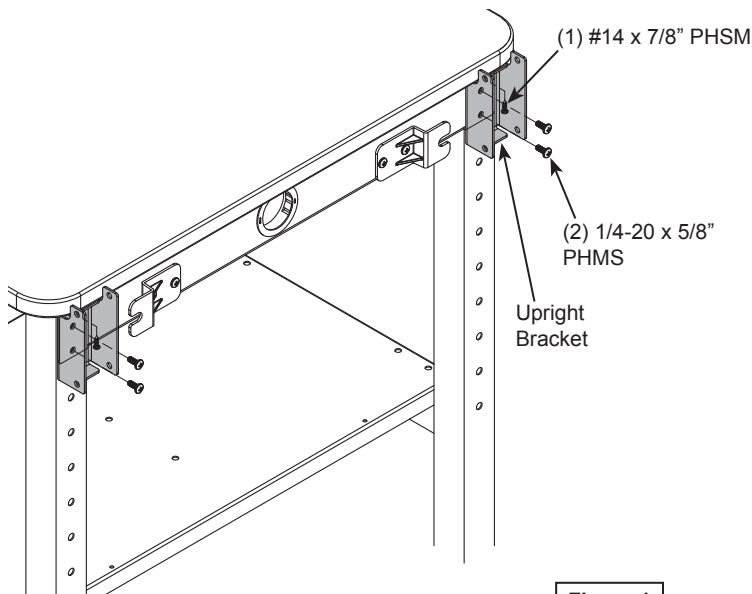
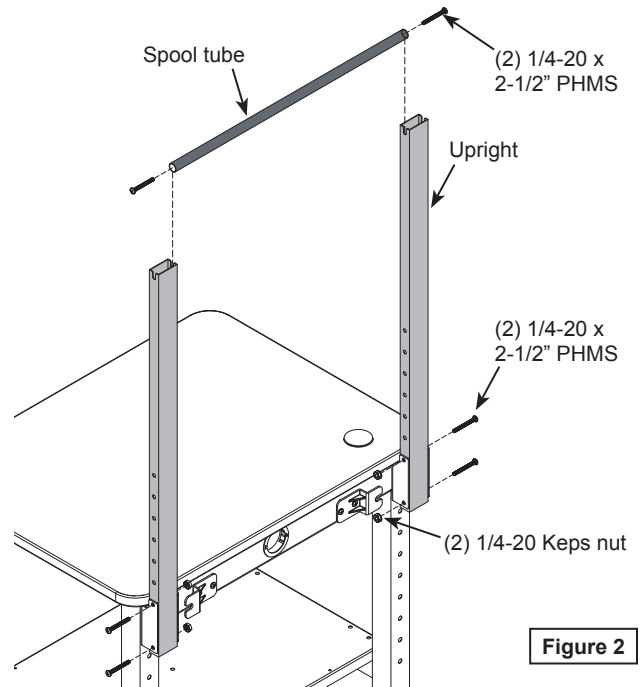

Figure 1
Figure 2
1. Install each upright bracket to the back of the unit as shown with (2) 1/4-20 x 5/8" PHM screws. **Figure 1.** If existing screws have already been installed into the legs here-please remove.
2. Install (1) #14 x 7/8" PHSM screw through each bracket into the worksurface.
4. Install each upright at the desired height with (2) 1/4-20 x 2-1/2" PHMS and (2) 1/4-20 Keps nuts. **Figure 2.**